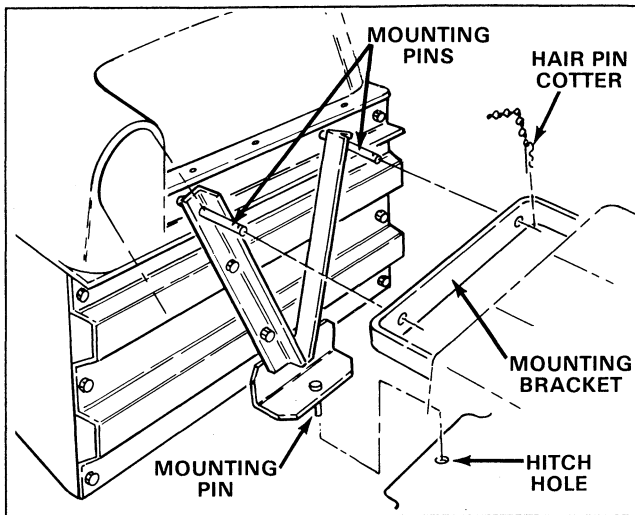

Figure 2
3. Slide grass catcher mounting pin into mounting hole in hitch (Fig.2).
4. Rotate grass catcher up so mounting pins line up with mounting holes in rider mounting bracket. Push pins through holes and retain with hairpin cotters (Fig.2).